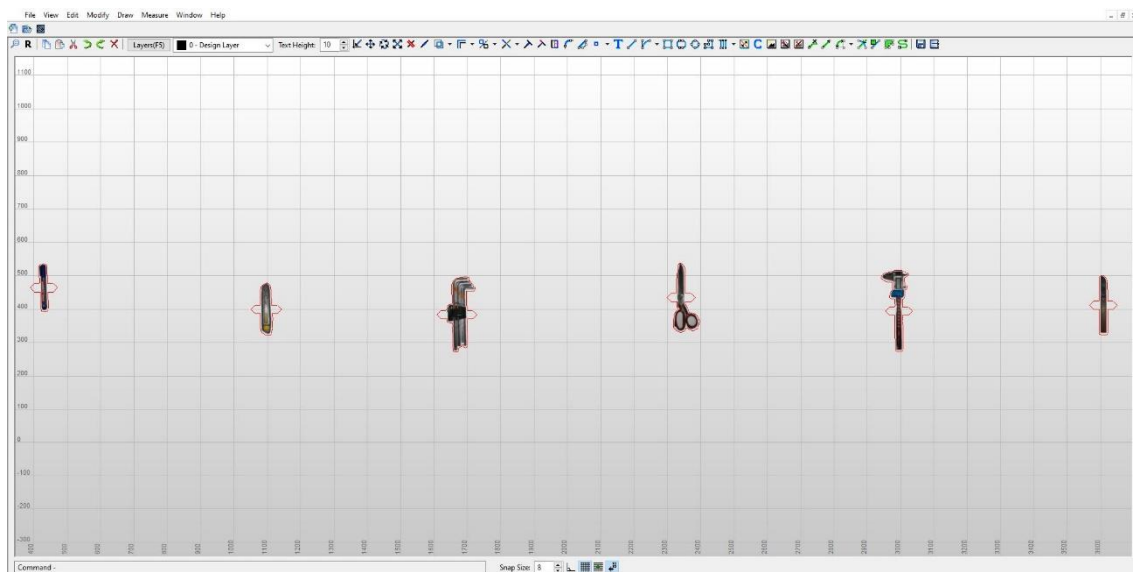

Figure 420
- b. Confirm with **OK**. The outcome is shown on Figure 420.